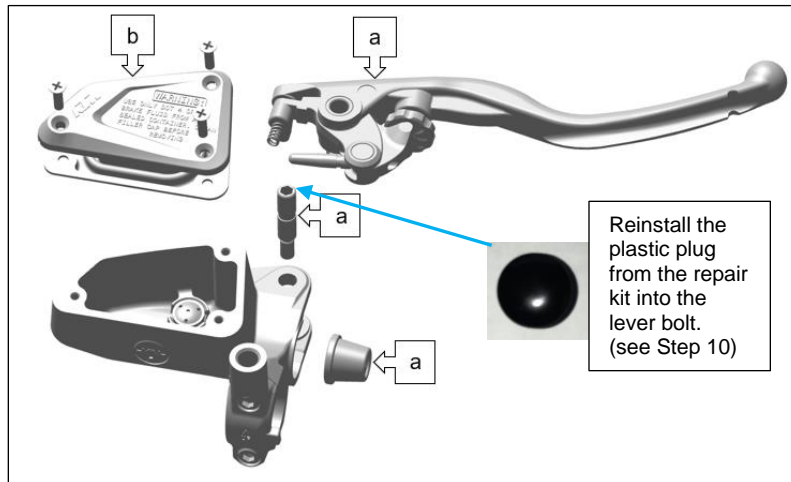

Fig. 3
3. Remove the front brake lever and diaphragm (Fig. 3 – a).
4. Remove the reservoir cover and diaphragm (Fig. 3 – b).